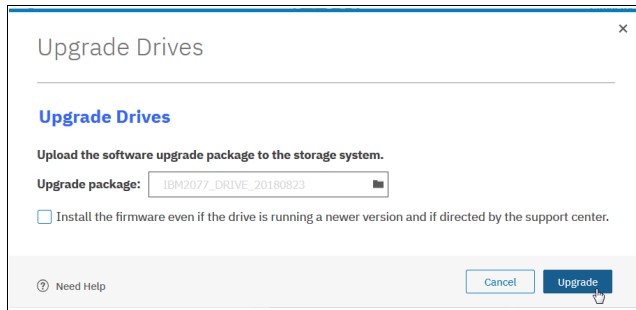

Figure 12-62 Individual drive update file selection
2. Select the upgrade package, which was downloaded from the IBM Support site, by clicking the folder icon, and click **Upgrade**, as shown in Figure 12-62.